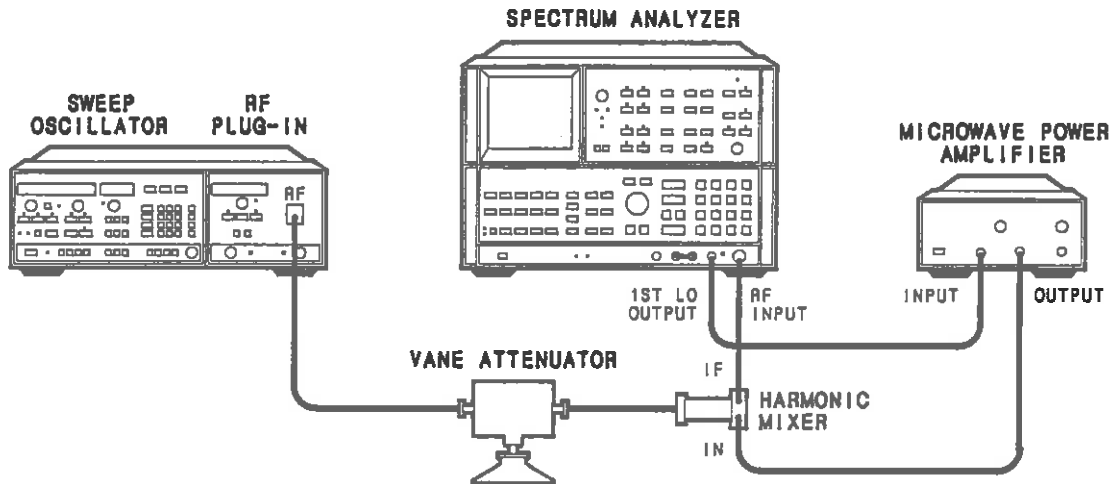

Figure 4-9. Residual FM Test Setup
1. Connect the equipment as shown in figure 4-9 but do not connect the mixer output yet. Set the vane attenuator to 20 dB.